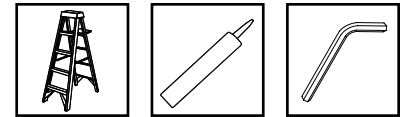

Fig. 19
3. With the help of two assistants, lift the top channel up and over roto, yoke and OV (Figure 19).